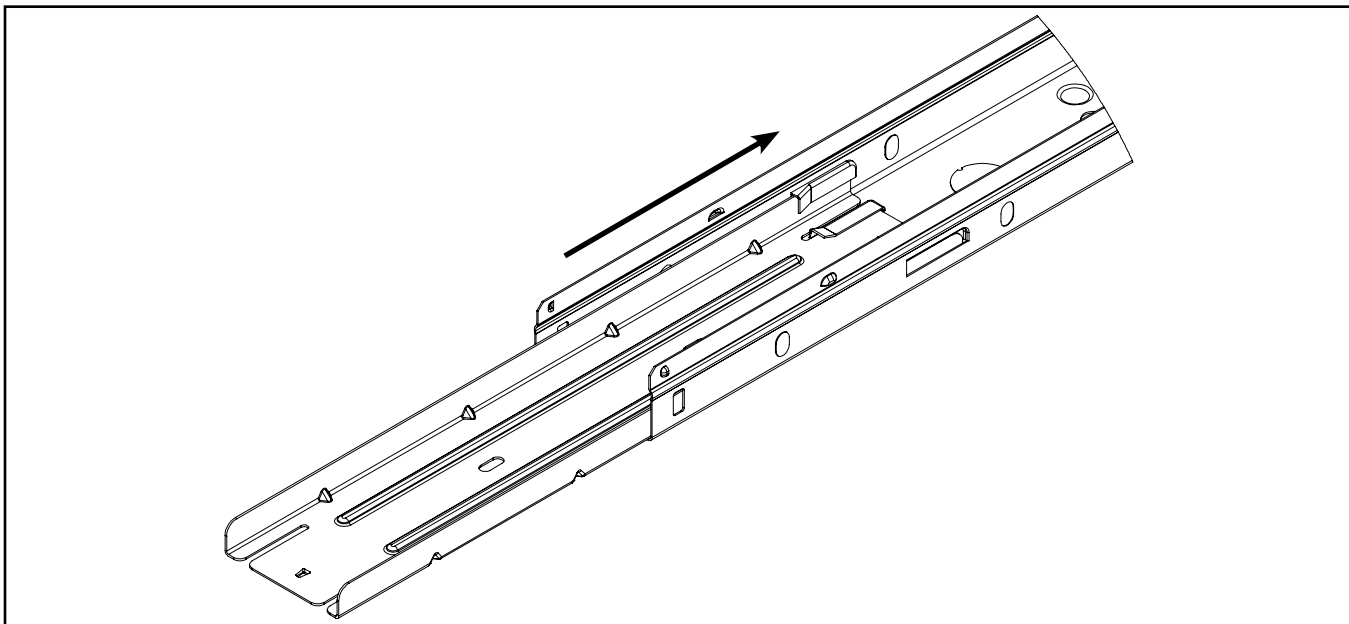

Figure 3
- Slide the row mount bracket into place (Figure 3).